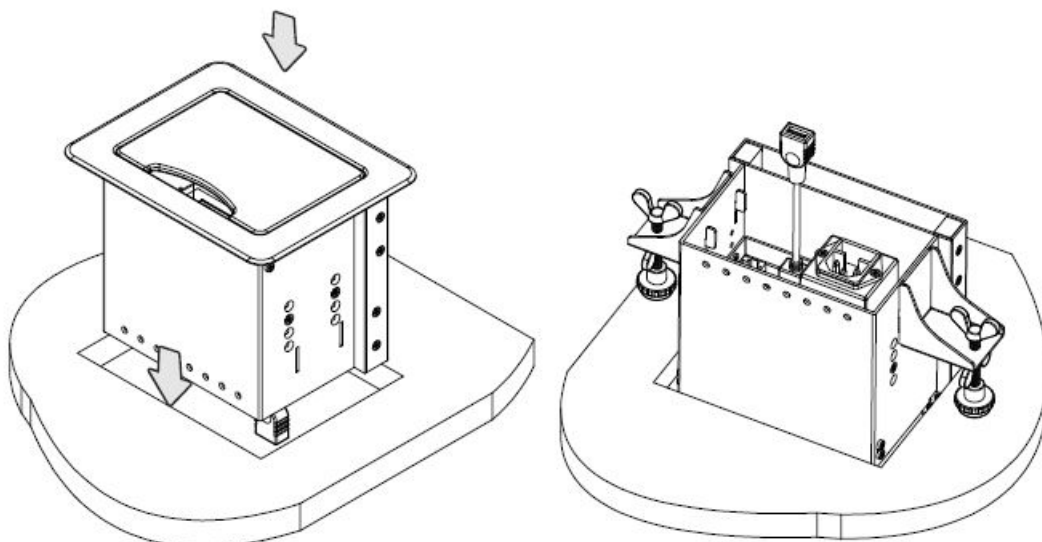

Figure 5: Inserting TBUS-5xl into the Prepared Opening
2. Carefully insert the unit into the prepared opening (see Figure 5).
5. Tighten both mounting butterfly screws upward until they reach the table surface (from underneath). Tighten firmly (see Figure 5).